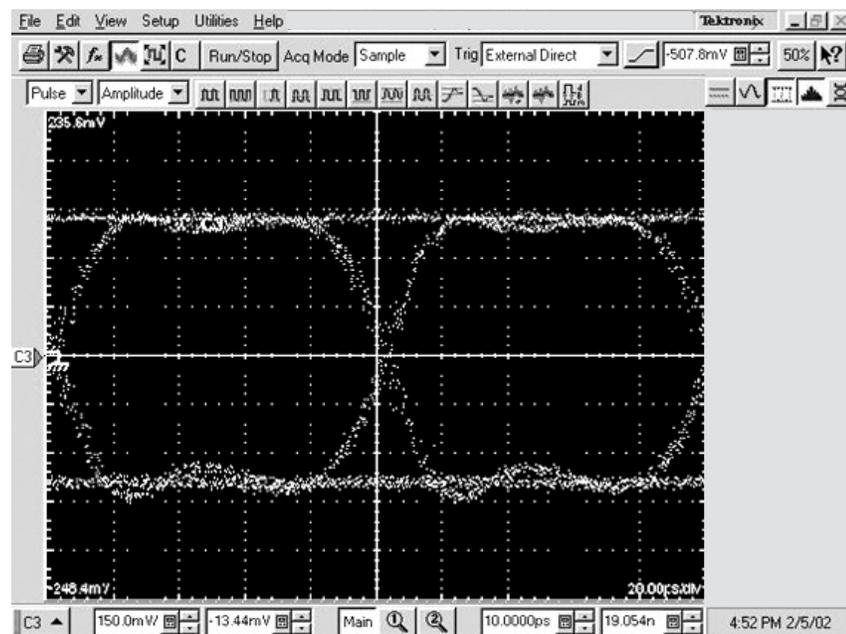

Figure 3: Oscilloscope display of an eye pattern
10. On the oscilloscope, press Autoset and then adjust the horizontal scale to display an eye pattern (see Figure 3).
The oscilloscope displays an eye pattern as shown in Figure 3. This indicates that the receiver is functioning correctly—it is converting the modulated input optical signal to an electrical eye pattern that represents the data stream from the BERT.